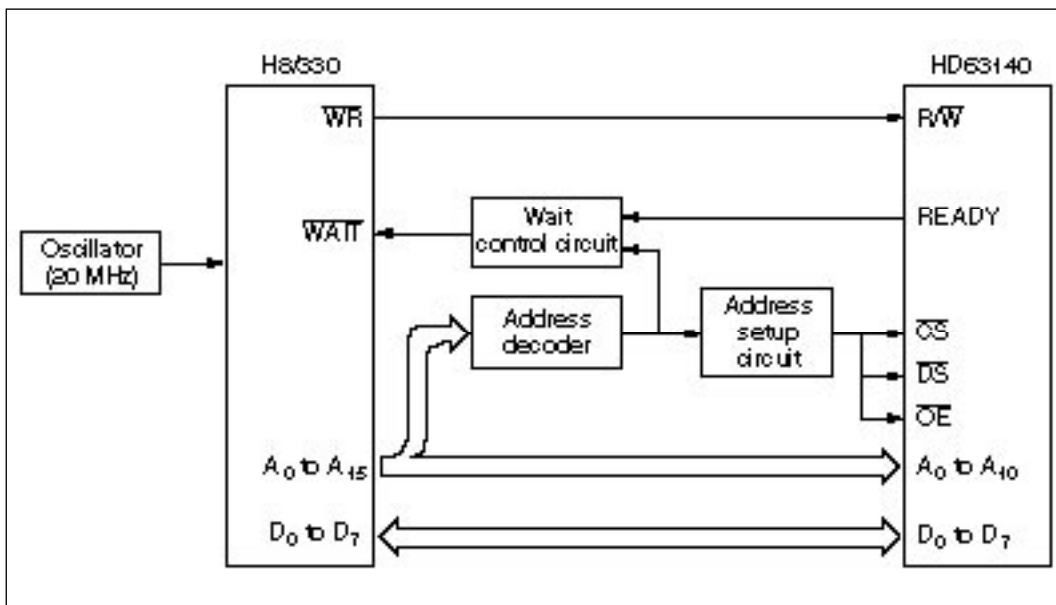

Figure 1 H8/330-HD63140 Interface Block Diagram
1. The H8/330's expanded mode (mode 2) is used to interface the H8/330 to a timer chip (HD63140) as shown in figure 1.